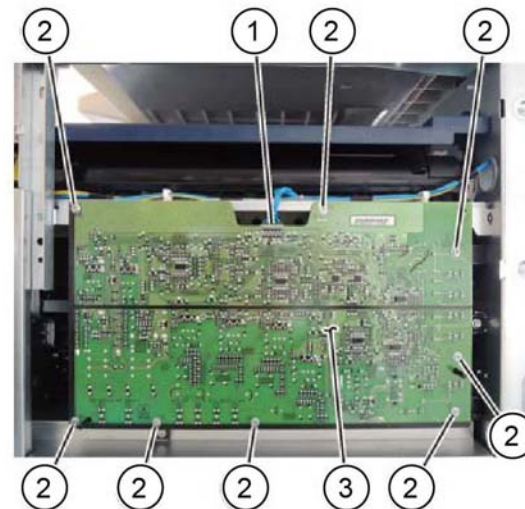

Figure 2 HVPS
2. Remove the HVPS, Figure 2.
- a. Disconnect the connector (1).
- b. Remove the screws (2).
- c. Remove the HVPS (3).